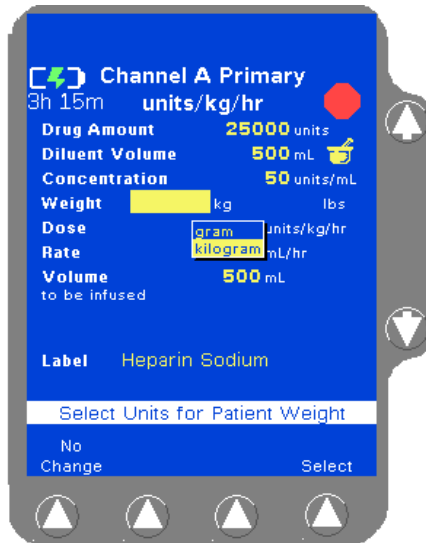

Figure 4-46 Weight Unit Pop-up
4. For small patients, weight can be entered in grams (or ounces) if appropriate. To change weight units, highlight the **Weight** field, press the **Units** soft key to display the weight units list (Figure 4-46), highlight the desired weight unit, then press the **Select** soft key.